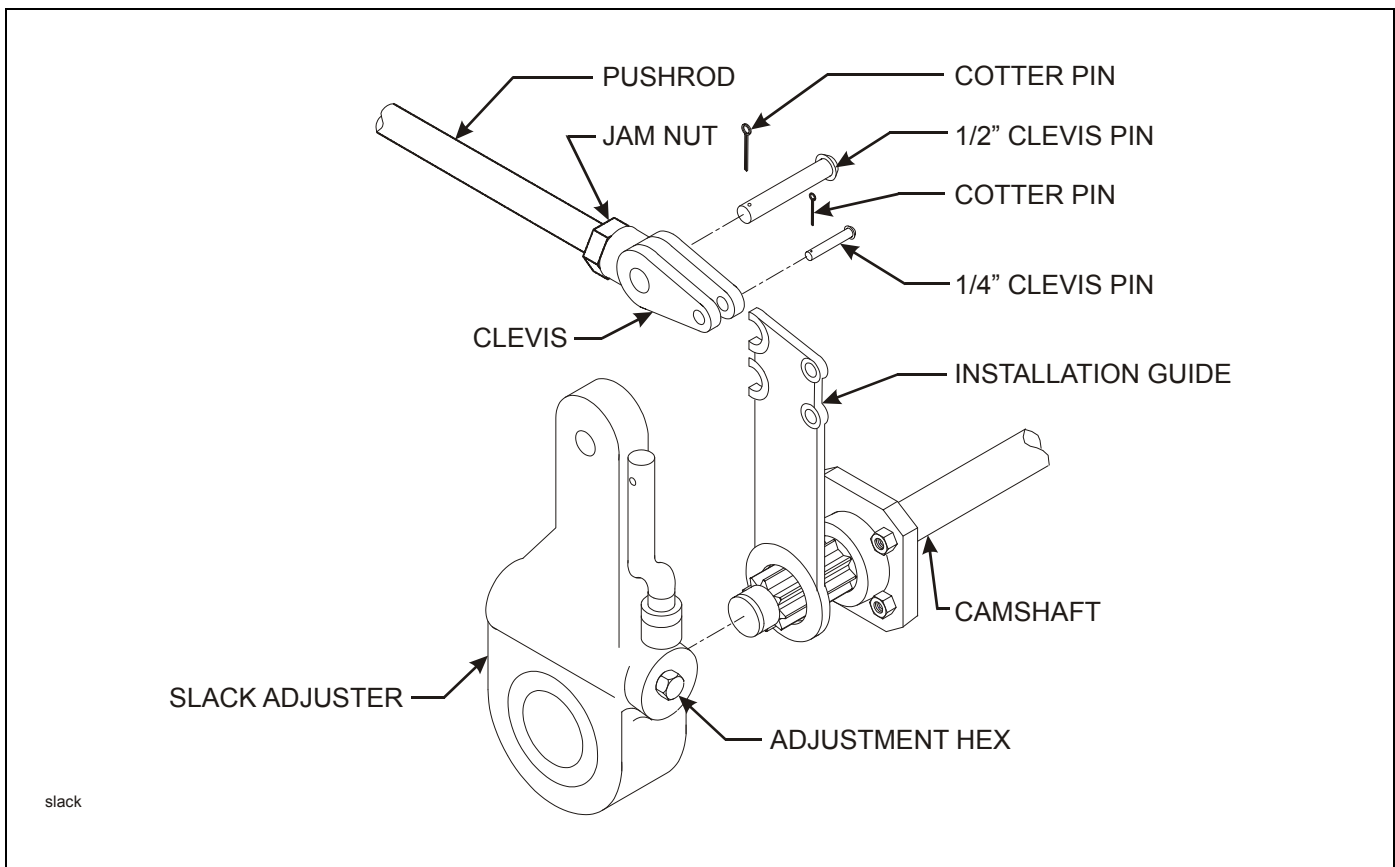

Figure 4-14: Slack Adjuster
4. Disconnect the slack adjuster from the connecting rod by removing the clevis pin (**See Figure 4-14.**)
4. Remount the brake chamber on the axle brackets and reconnect the air service hoses and the slack adjuster connecting rod (**See Figure 4-14.**)
2. Check that the push rod is fully retracted, apply air to release spring brake (See Figure 4-14.)